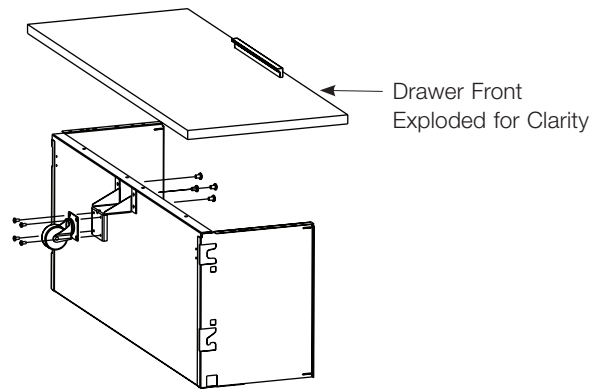

Fig. 2
4. Place credenza on its back on a clean, nonabrasive surface (recommended a clean sheet of cardboard or a blanket wrap). **(Fig. 2)**
5. Install 2-1/2" diameter casters by aligning to (4) threaded holes in pre-mounted caster plates and attach using (4) #10-24 x 5/16" pan head machine screws per caster. (2) locking casters at front corners of unit, (2) non-locking at rear corners. If required, install (1) non-locking caster in middle of unit for units 60" wide and larger **(See general notes)**. **(Fig. 2)**